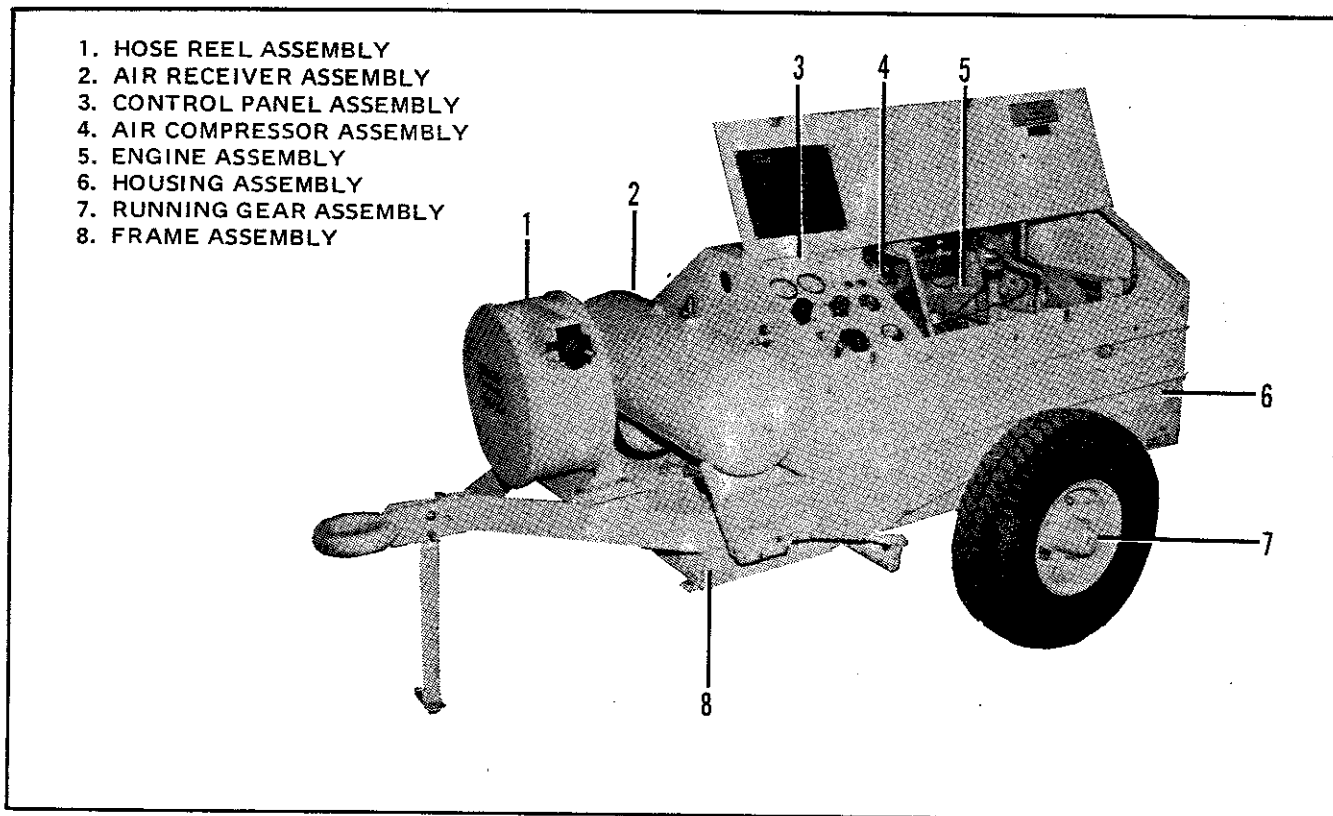

Figure 1-2. Major Components of Type MC-2A
**1-3. DESCRIPTION OF MAJOR COMPONENTS.** Refer to figure 1-2 and the following paragraphs for description of major components.
a. Hose Reel Assembly (1, Figure 1-2). An enclosed type hose reel with a universal hose guide is provided. Hose capacity of the reel is 50-feet (15.3 m) of 1/2-inch (12.7 mm) outside diameter air hose. The reel incorporates a spring latch mechanism that allows the operator to stop hose unwind at any position. With a pull of the hose, the hose will rewind. The spring tension of the reel is adjustable to the desired rewind tension.
b. Air Receiver Assembly (2, Figure 1-2). The air receiver assembly is the reservoir for the compressed air. It has a capacity of 10 gallons or 1.337 cubic feet (37.85 liters or 0.379 cubic meters). The receiver is equipped with a safety valve set to open at 220 psi (1515.8 kilopascals (kPa)) and a rupture disc designed to rupture at approximately 350 psi (2412 kPa). A drain valve is also provided to relieve receiver pressure.
c. Control Panel Assembly (3, Figure 1-2). The control panel assembly, located beneath access door at left rear of housing, contains all operating controls and gauges. Refer to figure 4-1 for identifying view of these controls.
d. Air Compressor (4, Figure 1-2). The rotary motion, sliding vane type, two-stage compressor is driven by the gasoline engine through an impeller-directly connected coupling. Compressor cooling is effected by the impeller portion of the coupling. Cooling air is directed over oil chamber fins by means of a cowl, drawn through an oil chamber support and expelled through an oil cooler. An oil separator assembly is mounted on top of the compressor and filters out all traces of oil from the compressed air. The oil separator contains a bleeder valve assembly which returns oil from separator to compressor via the compressor
e. Engine Assembly (5, Figure 1-2). The prime mover is a two cylinder, horizontally opposed, four stroke cycle,
f. Housing Assembly (6, Figure 1-2). The compressor, engine, and operating controls are protected from the weather by a housing fitted with hinged doors. These doors
g. Axle, Running Gear and Brake Assembly (7, Figure 1-2). The axle, running gear and brake assembly is a self-contained unit attached to the frame assembly. The unit is equipped with pneumatic tires and expanding shoe type brake assembly on each wheel. The brakes are operated by pulling the handbrake lever toward the rear (towbar).
h. Frame Assembly (8, Figure 1-2). The welded steel frame assembly provides mounting for engine and compressor assembly, air receiver, fuel tank, hose reel, axle and running gear, and all other components of the air compressor unit.